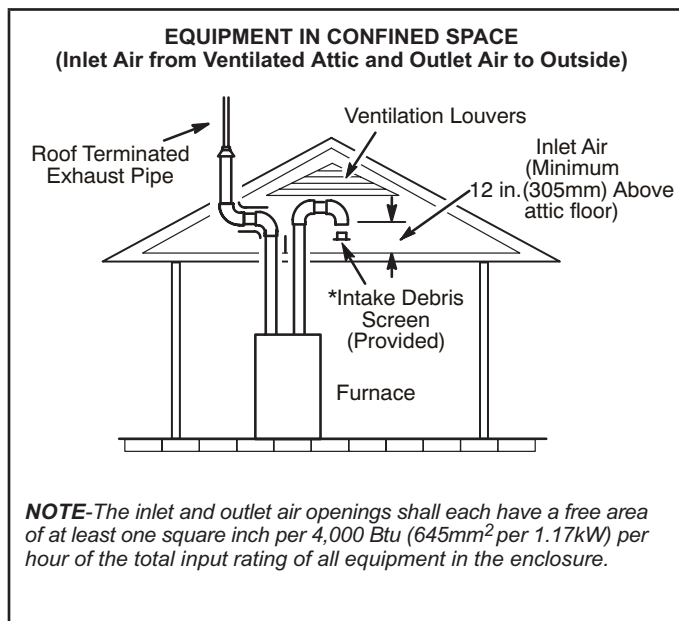
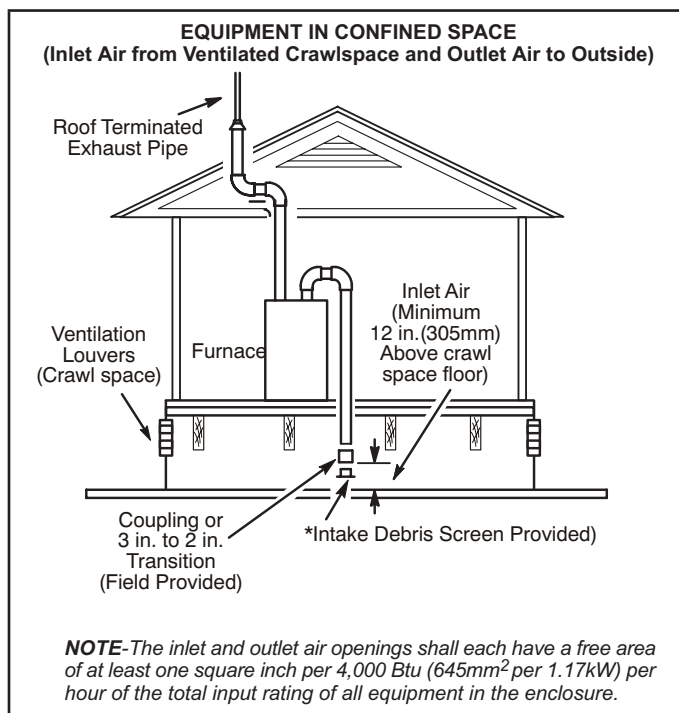

FIGURE 29
FIGURE 30
- 2 - If intake air is drawn from a ventilated attic (FIGURE 29) or ventilated crawlspace (FIGURE 30) the exhaust vent length must not exceed those listed in TABLE 6. If 3" diameter pipe is used, reduce to 2" diameter pipe at the termination point to accommodate the debris screen.